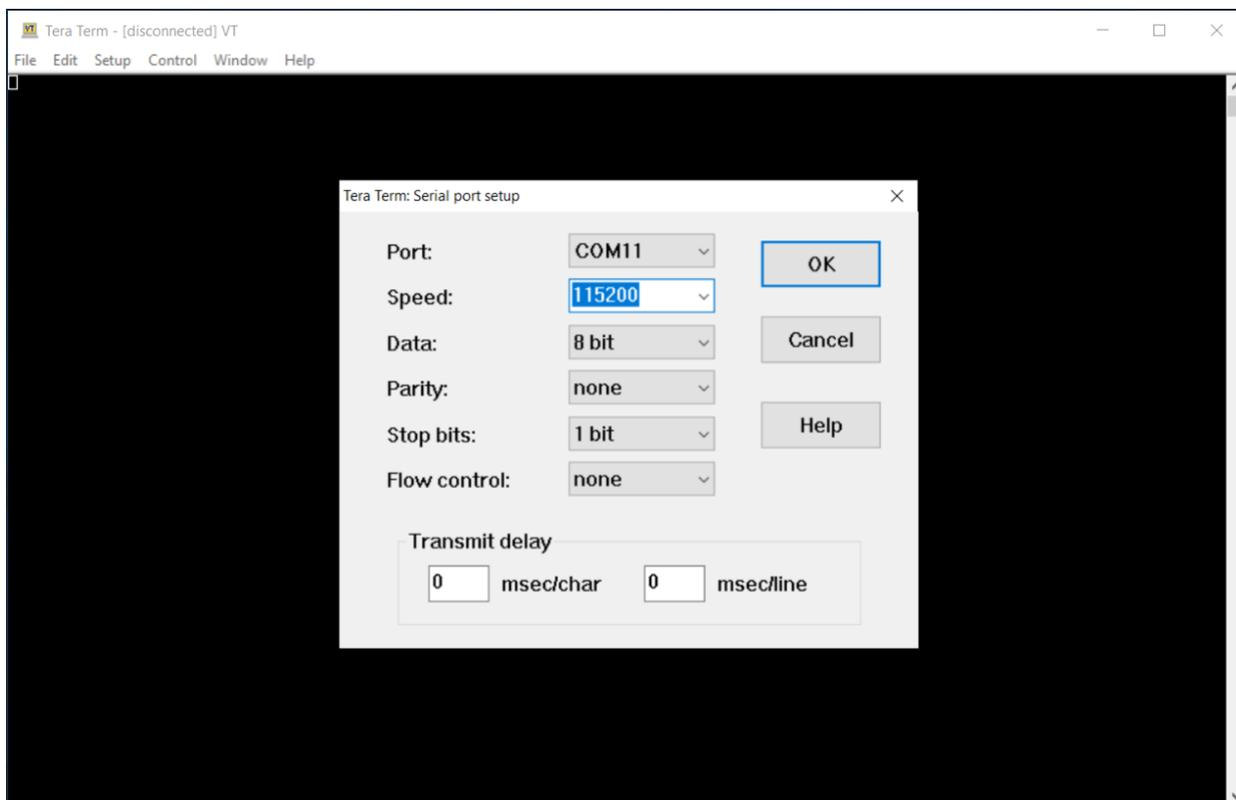

Figure 17
4. Configure the Connection Properties. Click on the "Setup" drop down in the menu bar at the top of the Tera Term window, and then select "Serial port...". Configure the settings in the dialogue that opens according to *Figure 17*. Do not change the "Port" setting, as this is already configured properly.